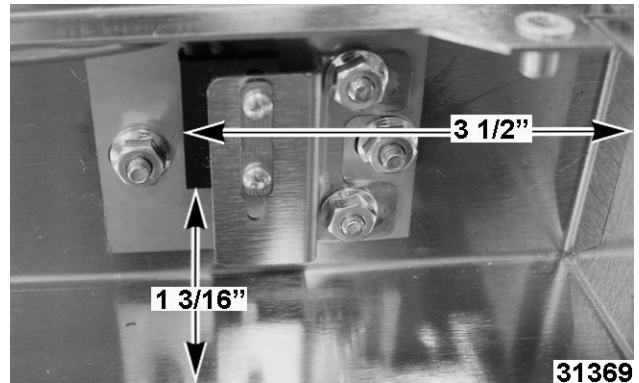

Fig. 116
- C. Loosen screws and nuts to adjust and obtain dimensions as shown in Fig. 116.